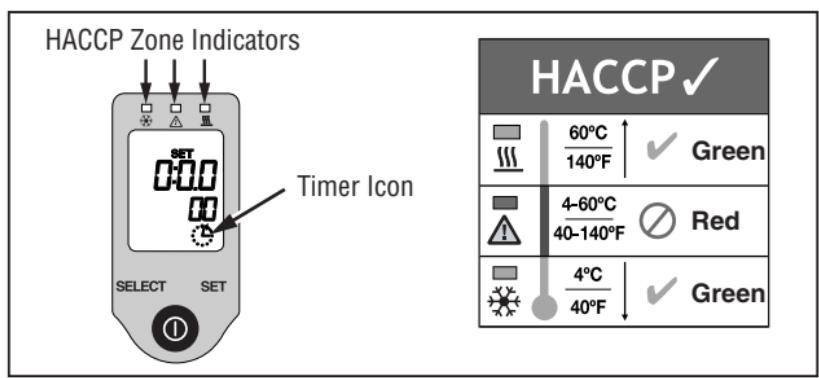

Figure 5. Countdown Timer Display
To set the countdown timer, press the SELECT button until the timer icon is displayed (Figure 5). Press the SET button once to enter the set mode (“SET” on display blinks). Press the SET button a second time to clear and increment the timer value. The timer value increases initially by 10 second intervals then by minutes and hours. The timer can be set for a maximum of 7 hours and 59 minutes.
This thermometer incorporates a “HACCP Check” feature to graphically display critical temperature zones. The icons and LED indicators located above the display indicate a food product is safely held at a sufficient holding temperature, or if it has fallen within the unsafe HACCP “Danger Zone” temperatures (Figure 5). The HACCP Check indicators operate in both the Noncontact and Contact modes. The indicator light will flash during an active measurement and will be lit steadily during display Hold or Recall (Figure 4).
- The Red LED indicator light is displayed when temperatures are within the HACCP “Danger Zone” of 4 °C to 60 °C (39 °F to 140 °F) where microbe growth occurs most rapidly (Figure 5).